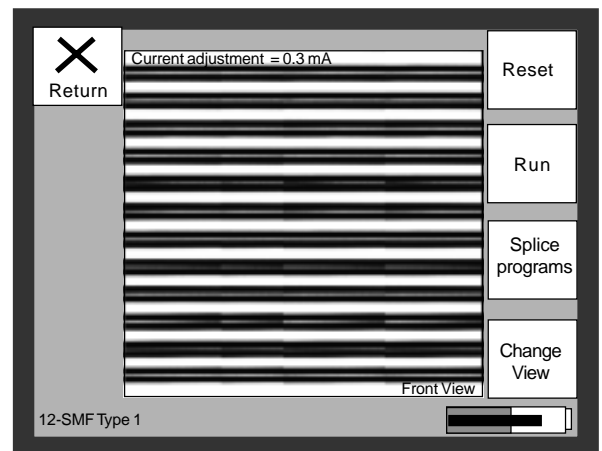

Fig. 63 - Starting current value and live image
4. A live front camera image and current adjustment value is shown on the display (fig. 63).